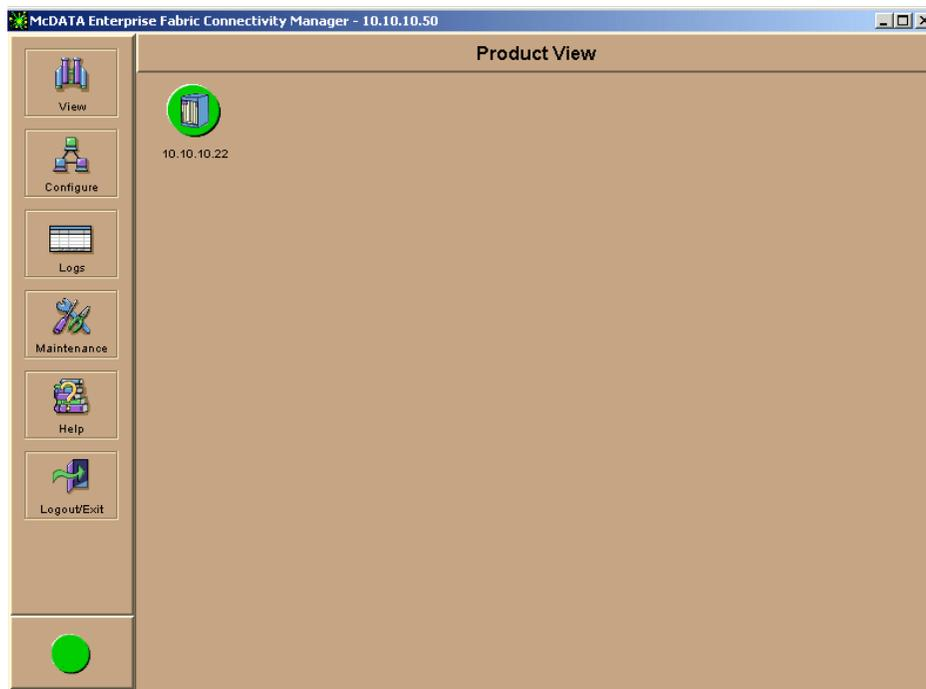

Figure 2-3 Product view
5. Select ED-6064 from the Product Type field and click the OK button. A new director icon will be shown at the Product view as in Figure 2-3 on page 62.